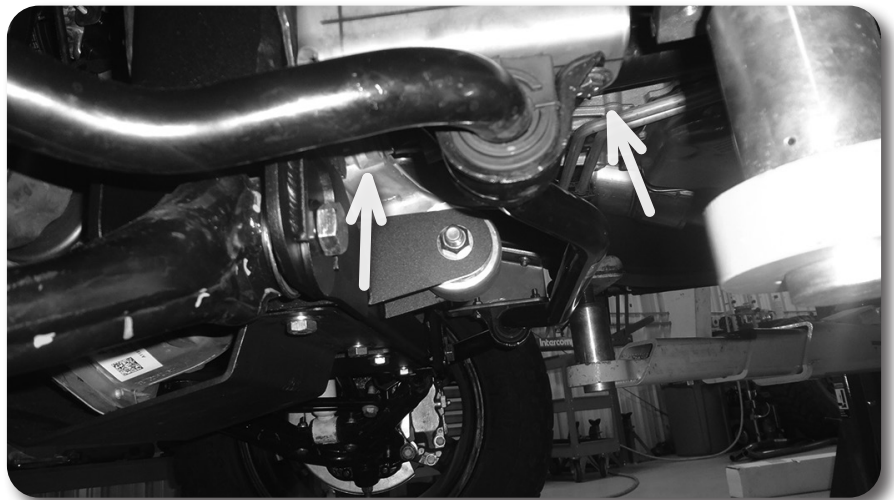

Figure 47
69. Attach the front sway bar to the sway bar drop bracket with the provided 3/8" bolts, prevailing torque nuts, and washers **Fig. 47**. Attach the sway bar link to the front control arms. Torque the sway bar drop hardware to 44 ft-lbs. Torque the sway bar link hardware to 74 ft-lbs